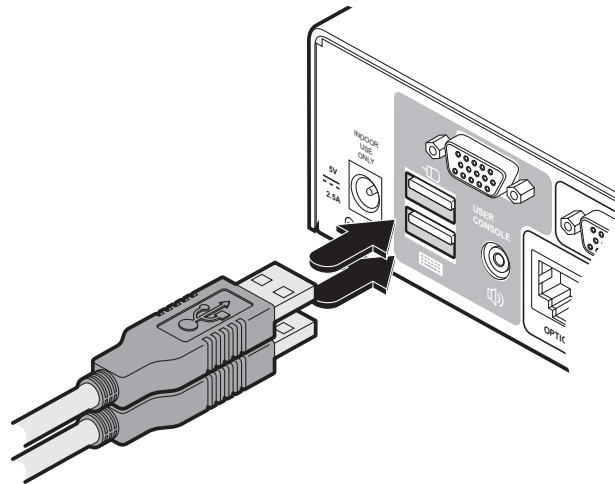

Figure 3-2. Connecting the keyboard/mouse to the user console.
- 2 Keyboard and mouse: Attach the leads from your USB keyboard and mouse to the USB sockets specifically labeled with keyboard and mouse symbols. The keyboard and mouse will operate in any of the USB sockets, however, True Emulation is not available on sockets labelled USB1 or USB2. See Figure 3-2.